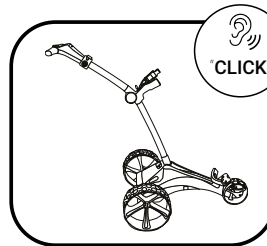

Fig 4
4. You will hear a positive “click” when the trolley is fully unfolded (fig. 4)